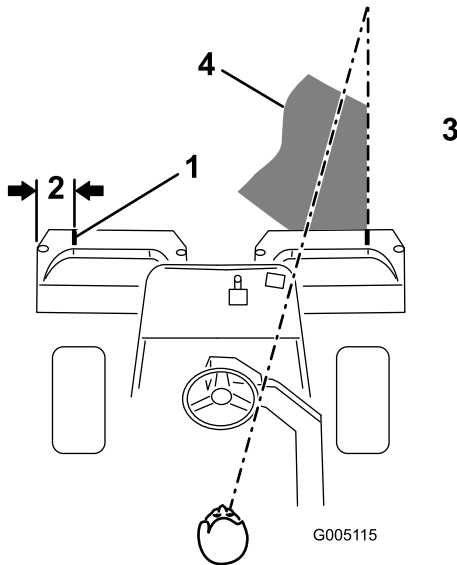

Figure 22
2. Either place a strip of white tape or paint a line onto each basket paralleling the outer edge of each basket (Figure 22).
3. Overlap a minimal amount with the previous cut on return passes. To assist in maintaining a straight line across the green and keep the machine an equal distance from the edge of the previous cut, establish an imaginary sight line approximately 6 to 10 ft (1.8 to 3 m) ahead of the machine to the edge of the uncut portion of the green (Figure 22 and Figure 23). Some find it useful to include the outer edge of the steering wheel as part of the sight line; i.e. keep the steering wheel edge aligned with a point that is always kept the same distance away from the front of the machine (Figure 22 and Figure 23).